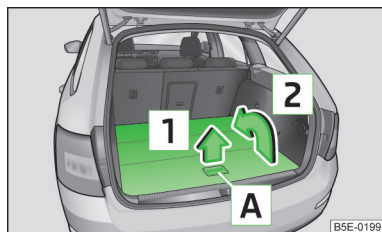

Fig. 97
- Grasp the rear of the variable loading floor by the handle **A** » Fig. 97 and lift in the direction of the arrow **1**.